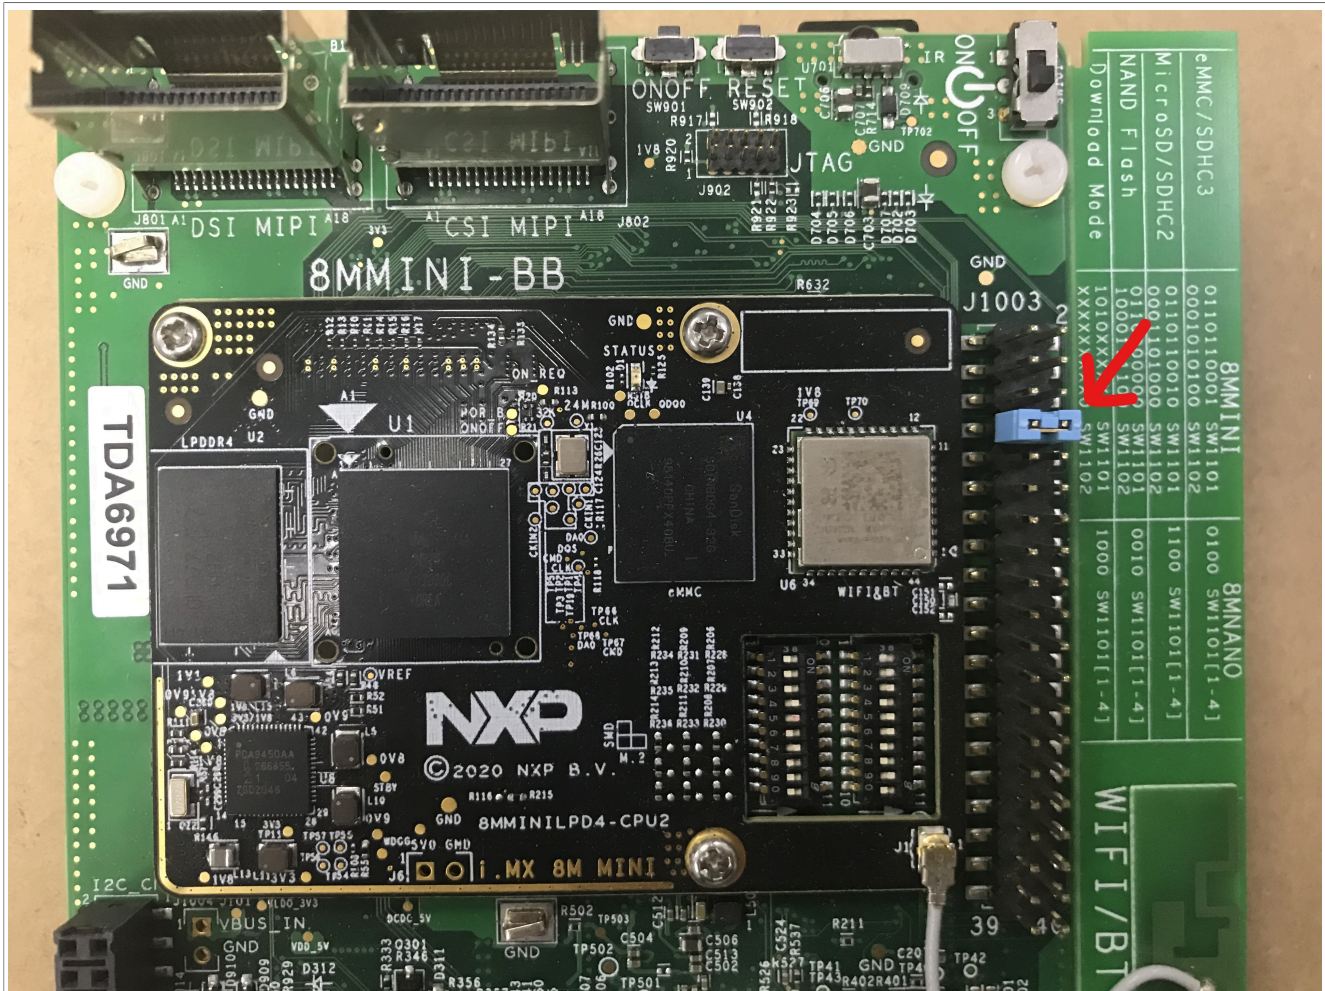

Figure 10. Connections for GPIO test on i.MX 8M Mini LPDDR4 EVK board
4. For GPIO test on i.MX 8M Mini LPDDR4 EVK, connect pin7 and pin8 of J1003 by a jumper as shown in Figure 10.